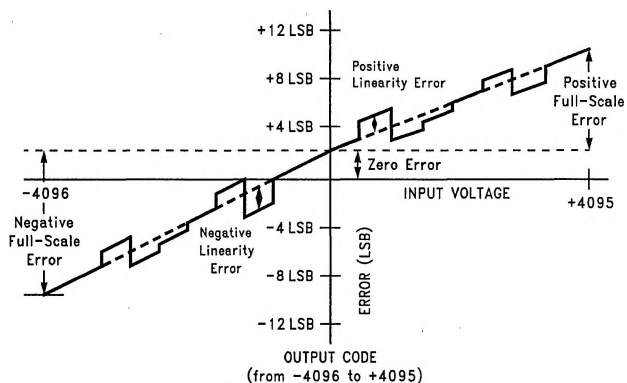

FIGURE 1b. Simplified Error Curve vs Output Code without Auto-Cal or Auto-Zero Cycles
**Note 11:** Positive linearity error is defined as the deviation of the analog value, expressed in LSBs, from the straight line that passes through positive full scale and zero. For negative linearity error the straight line passes through negative full scale and zero. (See Figures 1b and 1c).